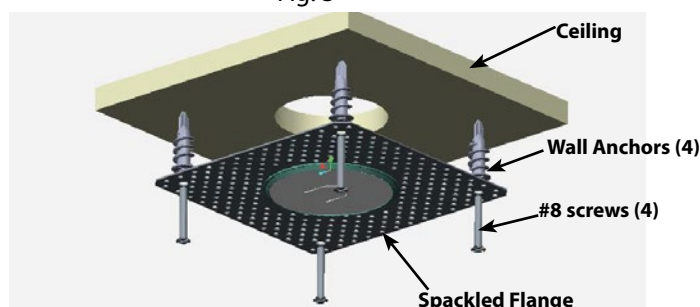

Fig: 4
3. For Remodeler Unit (Fig4): Use 5/16" drill bit and drill ceiling at 4 marked places. Install **Wall Anchors** and secure **Spackled Flange** with **#8 screws**.